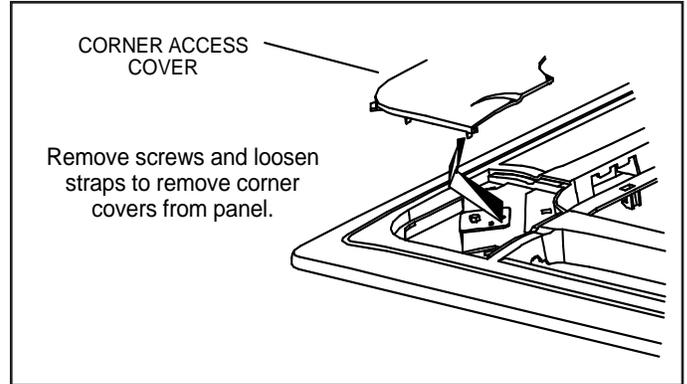

Figure 21. Remove Corner Covers
3. Remove access covers from each corner of the panel. See Figure 21.